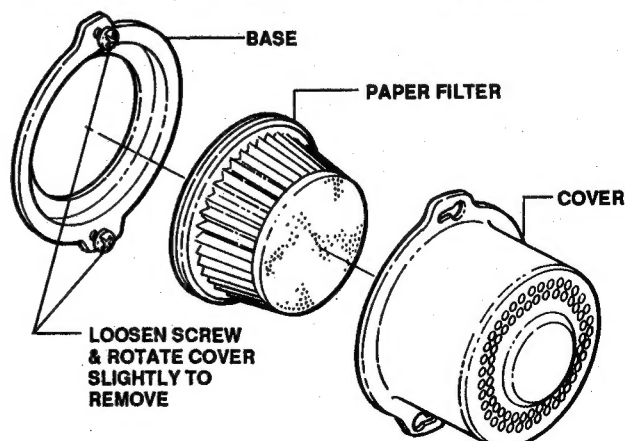

FIGURE 13
CHECK AIR CLEANER and replace paper filter once a year or every 100 operating hours. More often if used in extremely dusty conditions. Refer to Figure 13.
1. Loosen two (2) cover screws. (These need not be removed completely).
2. Rotate cover slightly and remove it from base. See Figure 13.
3. Replace paper filter with new filter as shown in Figure 13. (Replacement filters are available at any Authorized Service Center.